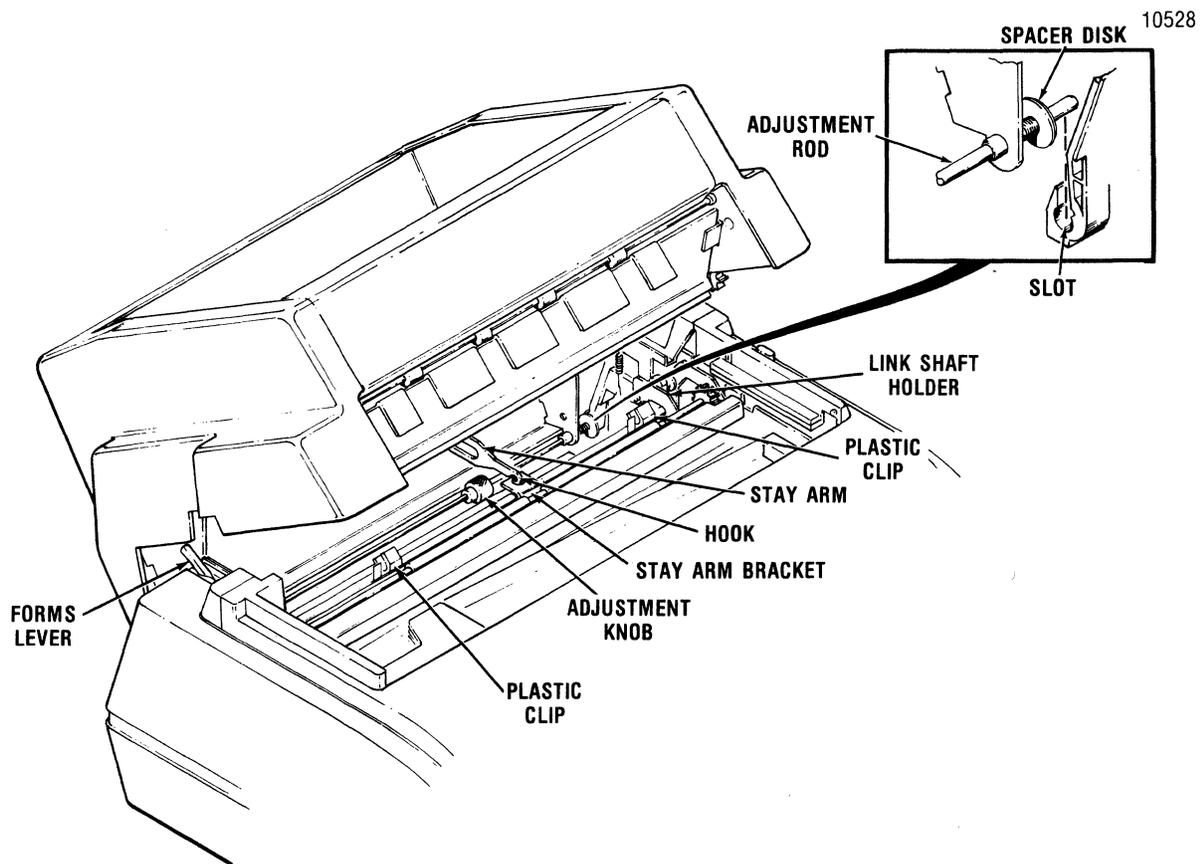

Figure 3-2 Installation, Sheet Feeder
Refer to Figure 3-2 and perform the following steps to install the sheet feeder.
1. Pick up the sheet feeder and carefully guide the ends of the feeder adjustment rod (see exploded view, Figure 3-2) into the mounting slots at the back of the printer body cover.
4. Firmly grasp the sheet feeder stay arm, pull the arm forward, and insert the arm hook into the arm bracket, as shown in Figure 3-2.